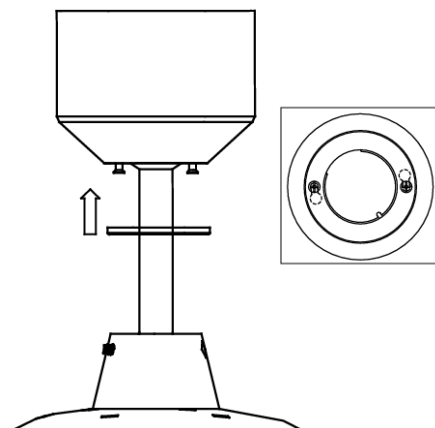

Fig. 6
4. Cover the mounting bracket with the canopy cover. Ensure all electrical wirings are tucked inside the canopy and that they are not damaged during this step, and secure with screws. **Fig. 6**
Zet tenslotte de afdekkap vast op de schroeven door deze met de klok meet e draaien. **Fig. 6**